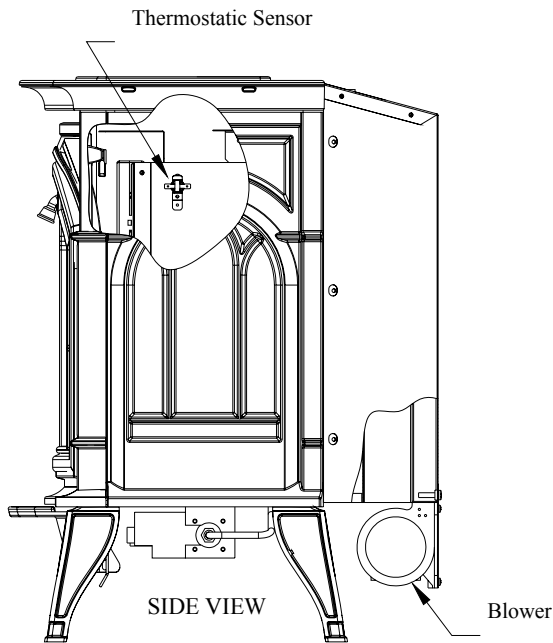

Figure 2: Blower Location
1. See figure 2 and 5 for thermal sensor location.